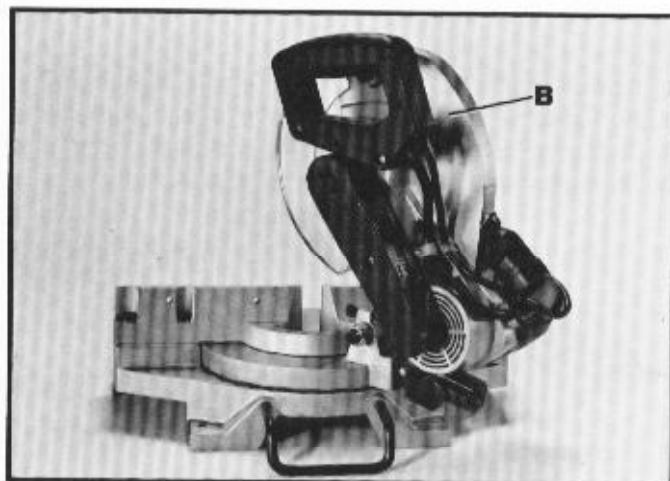

Fig. 4
2. The cuttinghead (B) can then be moved to the up position, as shown in Fig. 4.